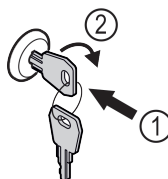

Fig. 197
- Insert the key. Fig. 197 (1)
- Turn the key clockwise by 90°. Fig. 197 (2)